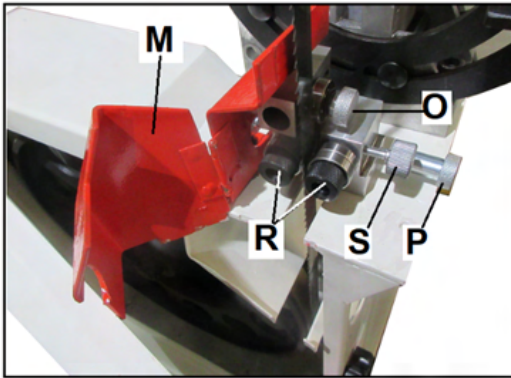

Figure 5-14: Lower Blade Guides
4. Swing the lower blade guard (M – Figure 5-14) to the left.
Refer to Figure 5-14.